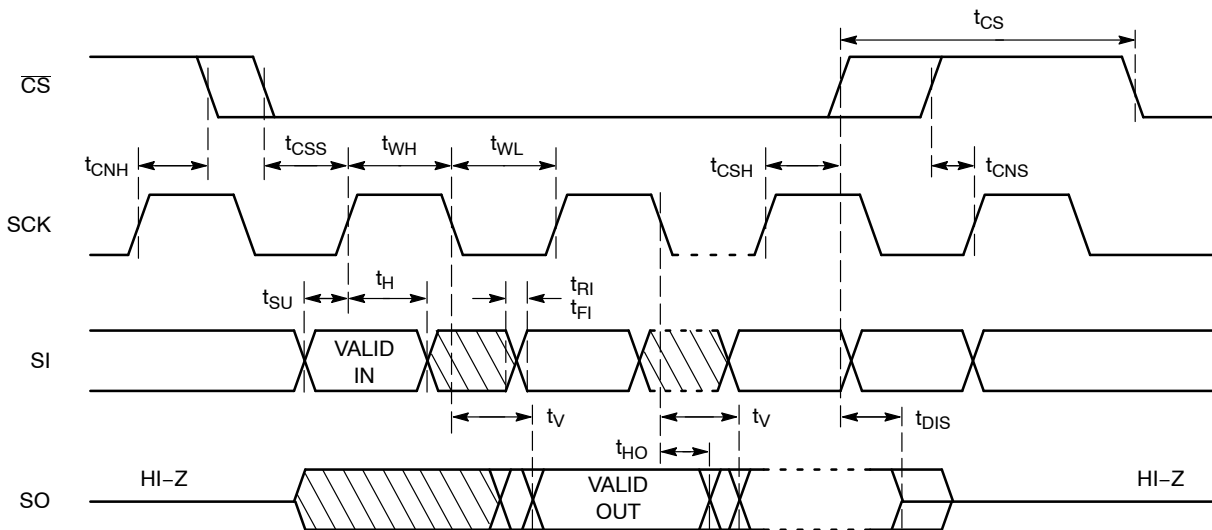

Figure 2. Synchronous Data Timing
7. **All Chip Select (CS) timing parameters are defined relative to the positive clock edge (Figure 2). t_{CSH} timing specification is valid for die revision C and higher. The die revision C is identified by letter "C" or a dedicated marking code on top of the package. For previous product revision (Rev. B) the t_{CSH} is defined relative to the negative clock edge (please refer to data sheet Doc. No. MD-1127 Rev. B).**
After a high to low transition on the $\overline{\text{CS}}$ input pin, the CAT25256 will accept any one of the six instruction op-codes listed in Table 7 and will ignore all other possible 8-bit combinations. The communication protocol follows the timing from Figure 2.